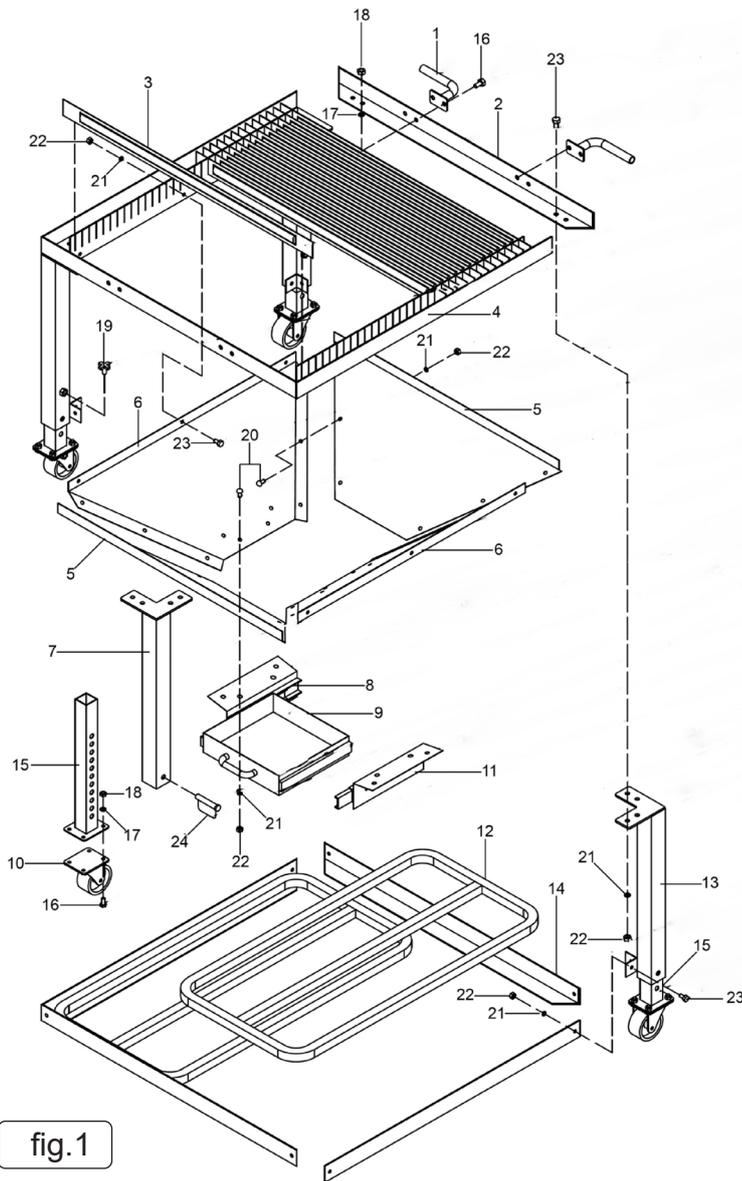

fig.1
- 5.3. Fix main beams (fig1.2, fig.1.4) to top of foot supports using fixings (fig1.21, 1.22, 1.23). Note positioning of main beams (see fig1).
- 5.5. Lay platform bases (fig1.12) into lower section (see fig1).
- 5.6. Fix funnel side plates to main beams (fig1.2, fig1.4) using fixings (fig1.21, 1.22, 1.23). Note positioning of side plates (see fig1).
- 5.7. Fix drawer supports (fig.1.8, fig1.11) using fixings (fig1.20, 1.21, 1.22) (see fig1.).